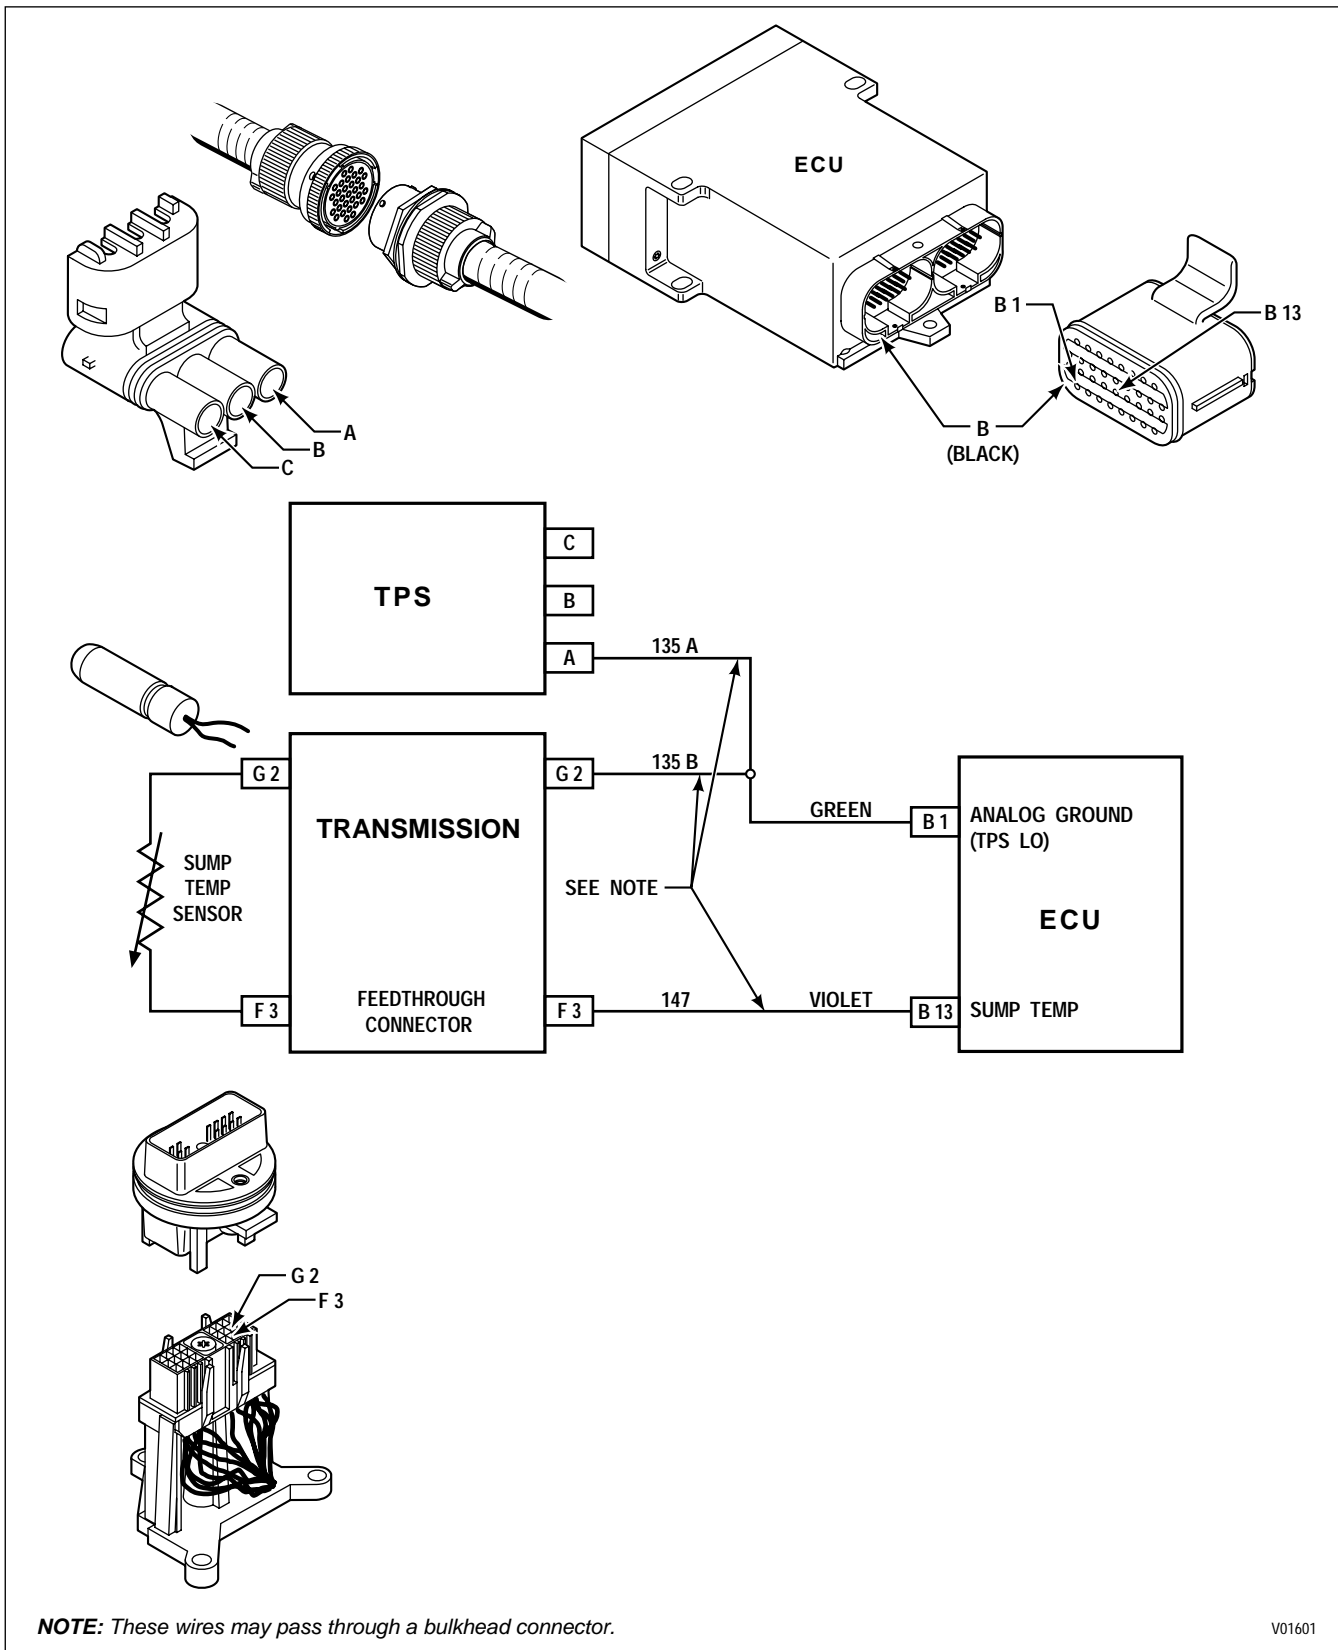

Figure 6-17. Code 33 Schematic Drawing (Units Produced Prior To 9/94)
**CODE 33 XX — SUMP OIL TEMPERATURE SENSOR** (Figures 6-17, 6-18)